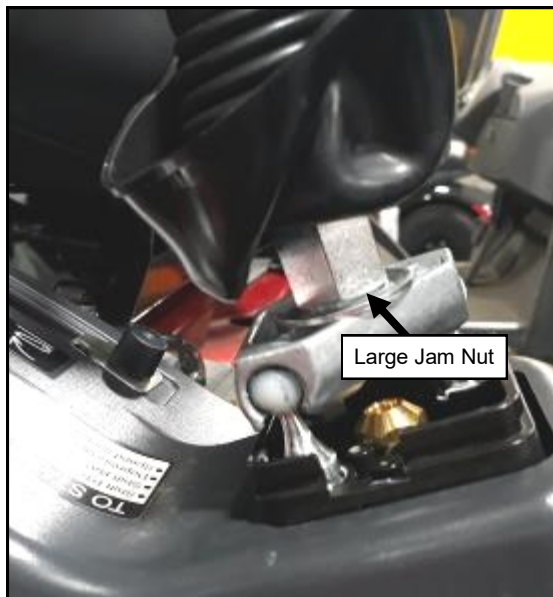

Fig. 27.1 (Loader Control Lever)
27.1 It may be necessary to rotate the loader control lever in order to obtain full travel once the right side door is closed. Simply pull up the boot, crack loose the large jam nut, reposition lever, retighten jam nut and pull boot back down. See Figure 27.1. **Note: Once adjusted, close door and confirm its operation.**